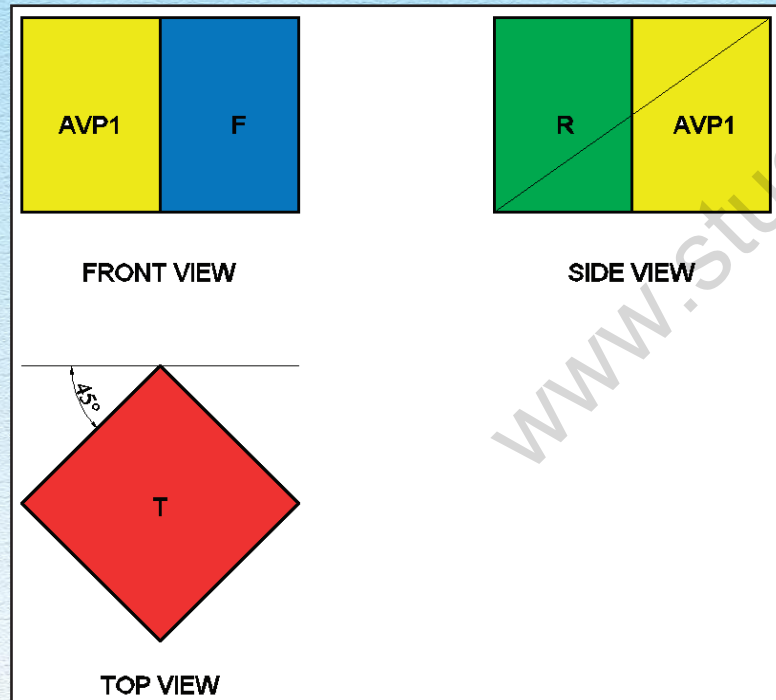
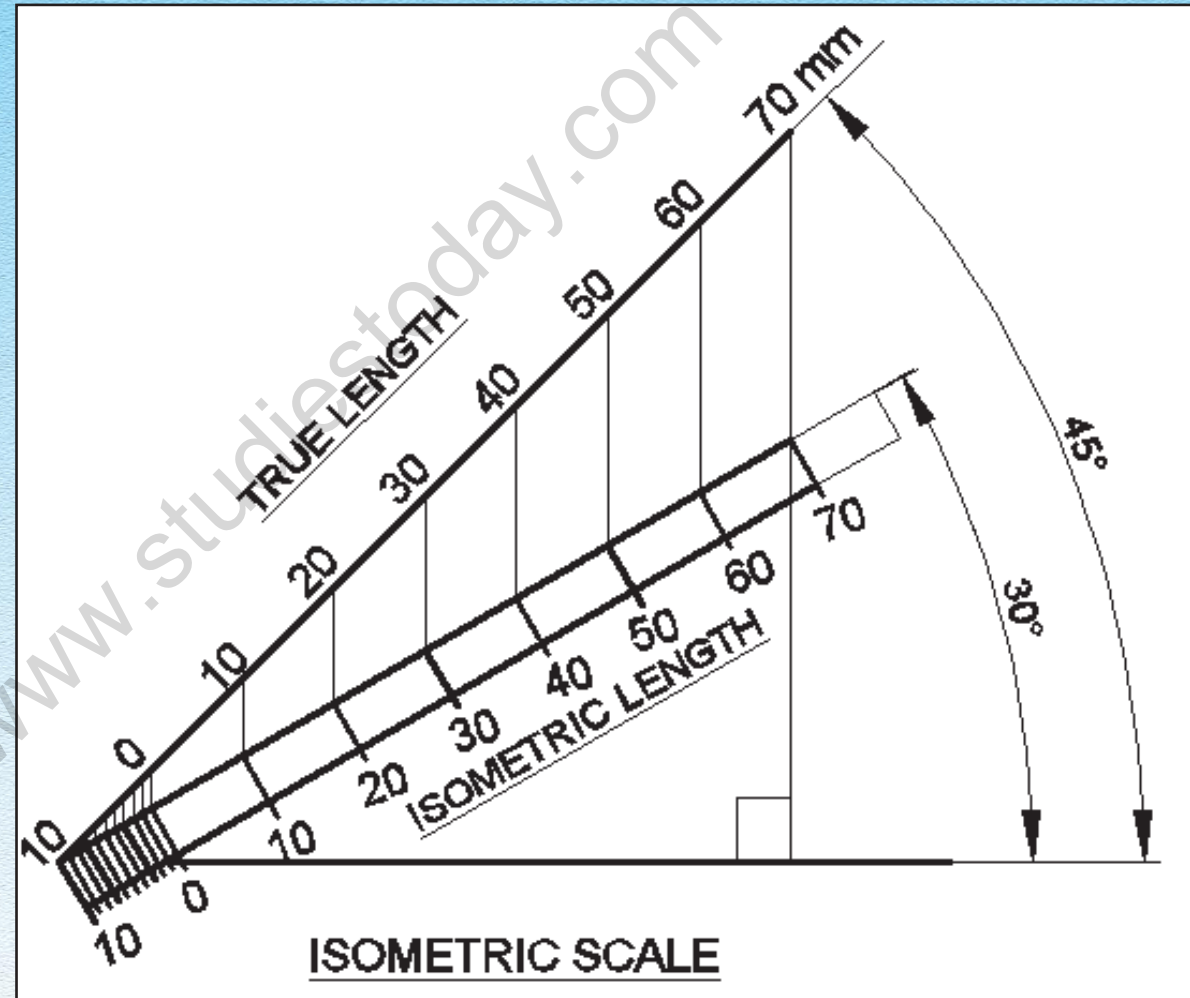

Fig. 7.4
Fig. 7.6(b)
Now turn the cube so that all the faces are equally inclined i.e. 45° to V.P. and draw its views as shown in Fig. 7.4. Here are the Front View and Side View, both show two surfaces of the cube, parallel to the plane of projection. We can see the "Body Diagonal" in its Side View, which is the longest straight line that can be drawn in a cube.
where the top (T) of the cube appears as a rhombus while in Fig. 7.4 the true shape of top (T) is square. These two shapes reveal that all the four edges of the Top (T) are foreshortened in isometric projection. If we draw both the (T) top relatively one with the other, we can conclude that rhombus edge is the isometric length of the square edge as shown in Fig. 7.6(a).